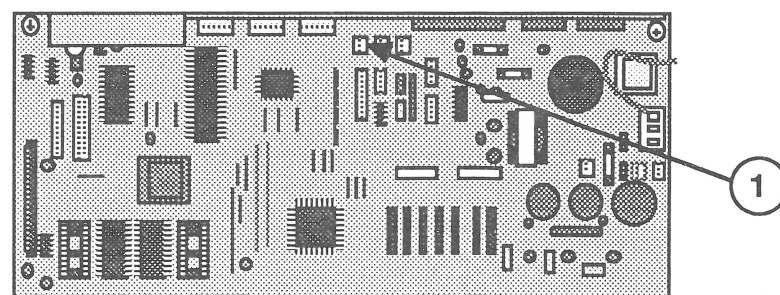

FIGURE 36
2. Disconnect the home position switch cable from main board cable CN10 (Figure 36, #1).